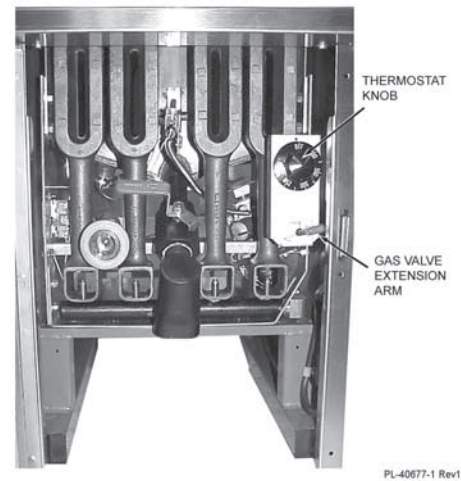

Fig. 5
1. Turn the thermostat OFF. The thermostat is located behind the door (Fig. 5).